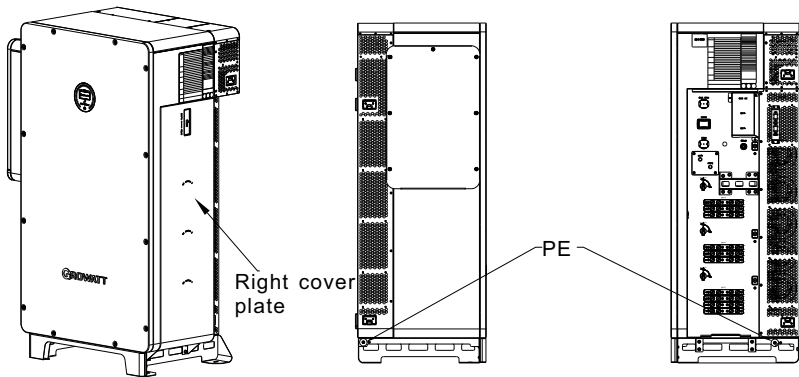

Fig 6.1 Ground points
4. The position of the ground points of the WIT 28-55K-HU-US L2 Storage/Hybrid Inverter is shown in fig 6.1 . You can find the ground points after removing the right cover plate.
1. Open the right cover plate of the WIT inverter, the position of which is shown in Fig 6.1;
4. Open the cover plate on the right side of the inverter, the position of which is shown in Fig 6.1.